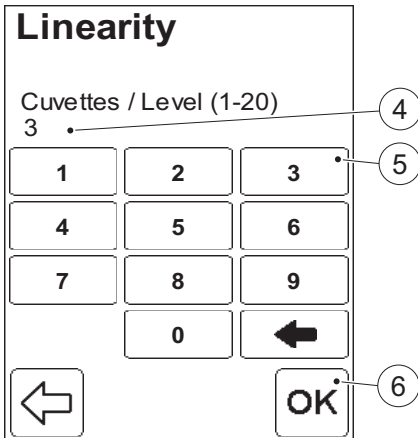

FIGURE 3-81
- To change the setting, press the button for the desired option (1).
- Press the Confirm button (3). FIGURE 3-81 will be displayed.